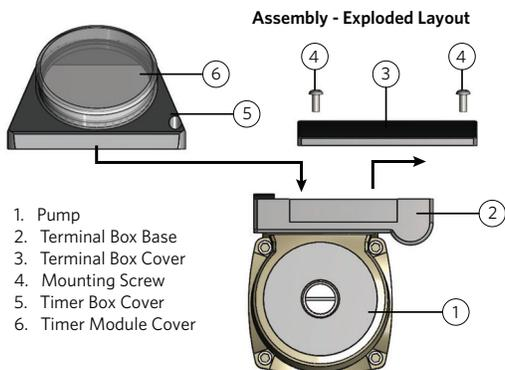

FIG. 1 - Astro 2 series circulator and 24-hour timer assembly drawing
Note: Numerical component designations included in Steps 1 through 8 refer to circulator and timer components shown in FIG. 1. Steps 1 & 3 apply to retrofit installations.
- Note:** Numerical component designations included in Steps 2 through 8 refer to circulator and timer components shown in FIG. 1.
- 2 Unfasten the mounting 2 screws (4) and remove the terminal box cover (3).